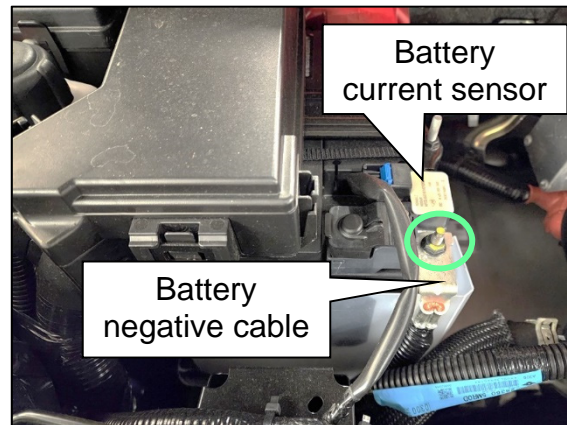

Figure 3
- a. Loosen and remove the battery negative cable from the battery current sensor (Figure 3).